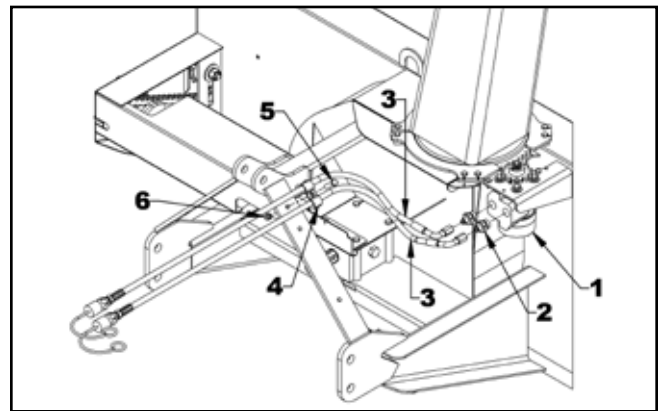

Figure 24. Hose Assembly
4. Figure 24: Install a 0.052" flow restrictor (2) in each motor port (1).